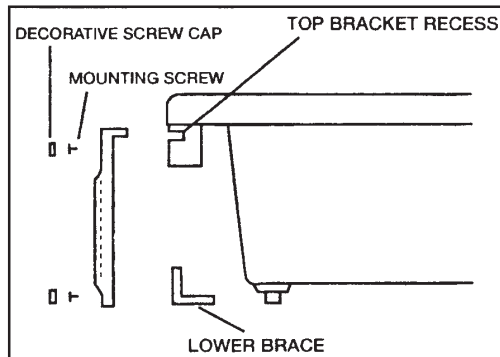

figure 7
4. Place decorative caps over screw heads. (figure 7)